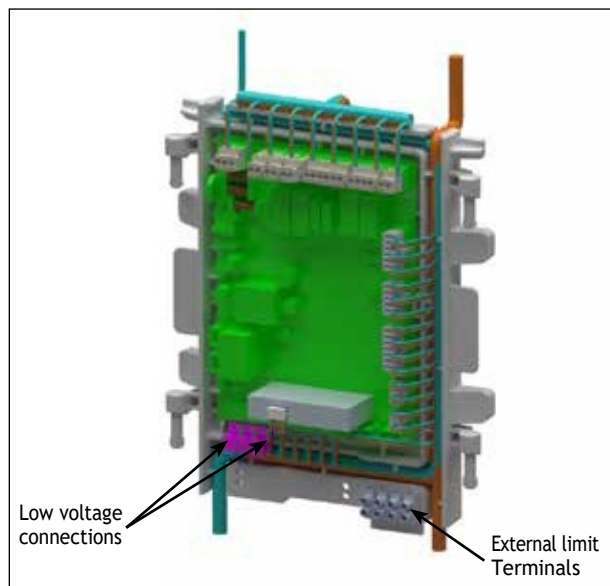

Fig. 32 - Low Voltage Connections
The low voltage terminals are located at the bottom of the CTRLMax control module. The line voltage terminals are located in the lower left corner as shown in Fig. 32 on the right.
1. Connect the DHW aquastat or temperature sensor wires to low voltage terminals X4-1&2 located at the bottom of the CTRLMax control module as shown in *Fig. 32 on page 47*.
3. Connect the external limit wires to the Manual Reset Limit or Auto Reset Limit low voltage terminals located on the lower right corner of the CTRLMax control module housing as shown in *Fig. 32 on page 47*.
1. Connect the system temperature sensor wires to low voltage terminals X5-3&4 located at the bottom of the CTRLMax control module as shown in *Fig. 32 on page 47*.